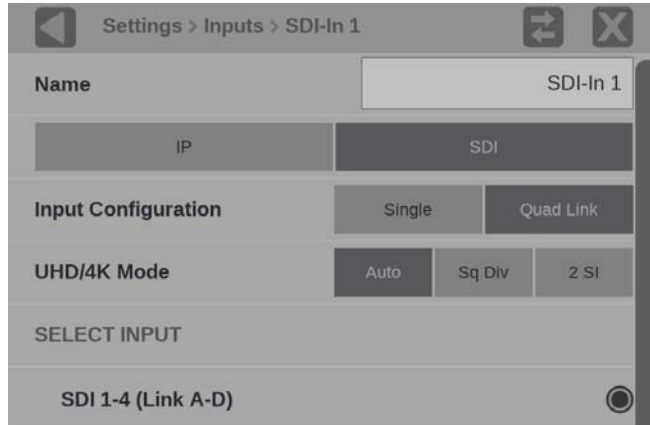

Figure 37: Quad Link SDI signal configuration
5. Select **Quad Link** for the Input Configuration. SDI 1-4 (Link A-D) is selected by default. (See Figure 37.)